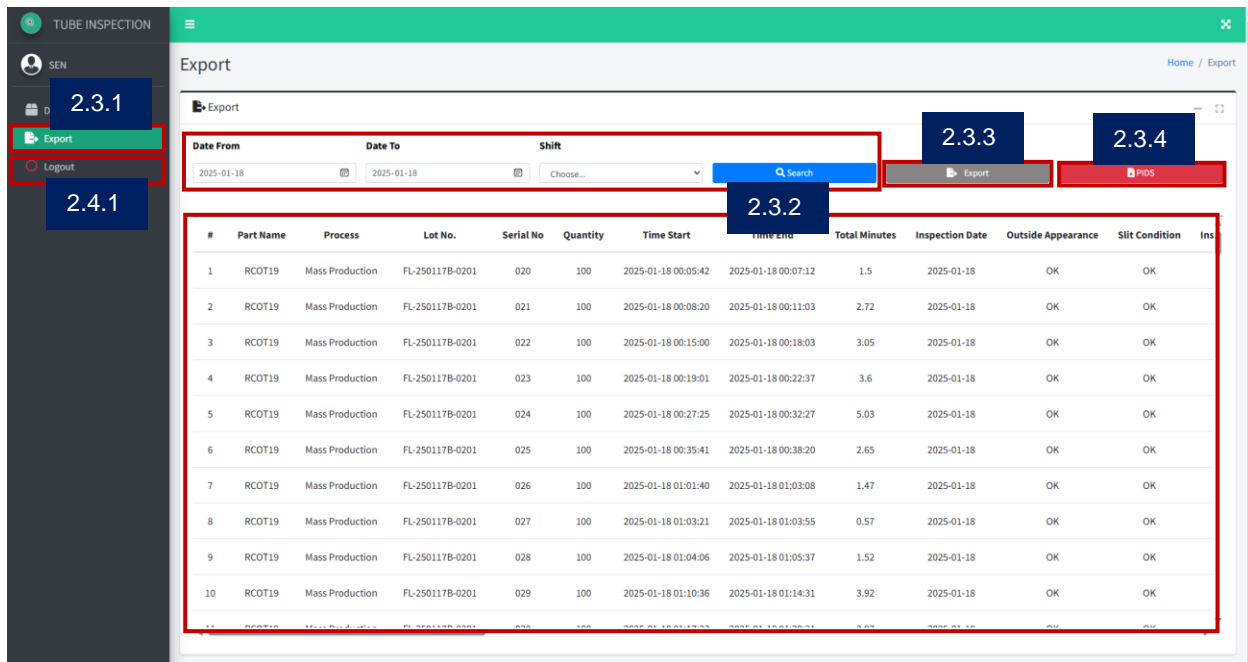

Figure 5. User – Export Page
2.3.1 Click on the Export page in the sidebar to proceed to the page. See Figure 5
2.3.2 By default, the table displays no data. The user must filter the search fields (date from, date to, and shift), then click on the Search button. See Figure 5
2.3.3 To get the raw data from the table, click on the Export button. See Figure 5
2.3.4 To get the computed data (the includes the part name, total box/roll, total part qty, total inspected qty, total no good detected, no-good percentage, total inspection time, and frequency of remarks), click on the PIDS button. See *Figure 5*
2.4.1 Click the logout button in the sidebar. A popup modal will appear; confirm to sign out from the system. See *Figure 5*